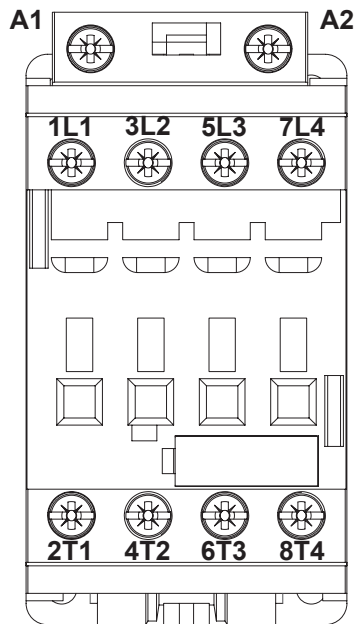

Figure 8 Terminals Connected to New Contactor
6. See Figure 8 and Table 1. Secure all terminal connections, including new red A1 wire to the new contactor. Torque screws accordingly: